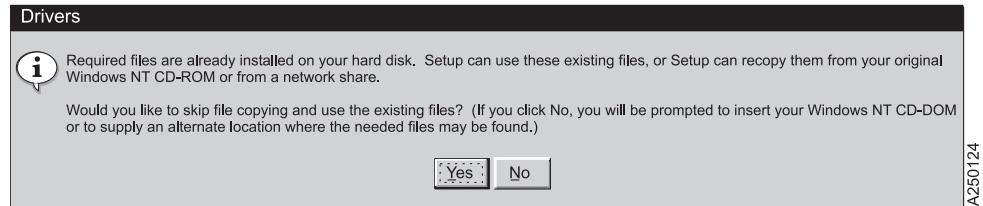

Figure 18. Windows NT Statement
9. If you installed the **Device Driver System Files** component in step 4 on page 160, Windows NT might ask the question shown in Figure 18. Click Yes, then skip to step 11. If the system prompts you for *ibmtape.sys*, browse to select the drivers directory (*c:\winnt\system32\drivers*). The system may also prompt you for *ntutil.exe*. Browse to the system32 directory (*c:\winnt\system32*).
10. If you **did not** install the **Device Driver System Files** component in step 4 on page 160, click No to the question in Figure 18. The operating system will prompt you for the location of the driver files.